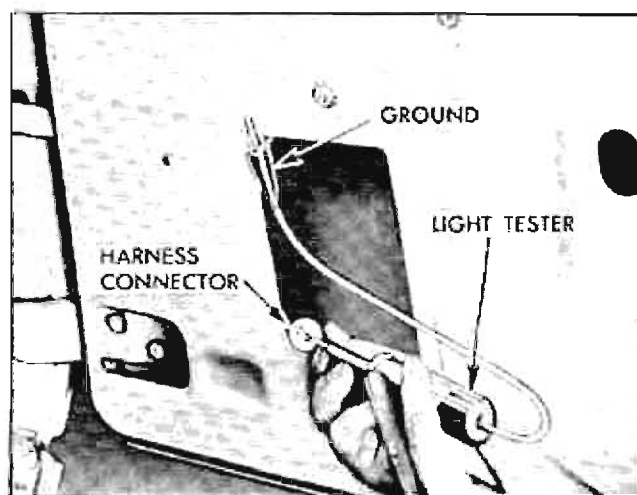

Fig. 8-5 Checking Circuit Between Switch and Motor
3. With light tester check for current at terminal being checked. If tester does not light, there is an open or short circuit in the harness between the control switch and motor connector (Fig. 8-5).